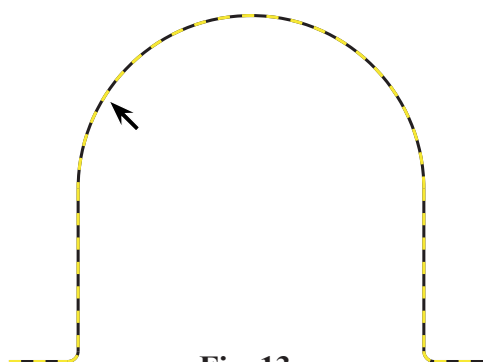

Fig. 13
Step 3. Click any geometry and click OK in Chaining dialog box, **Fig. 13**.